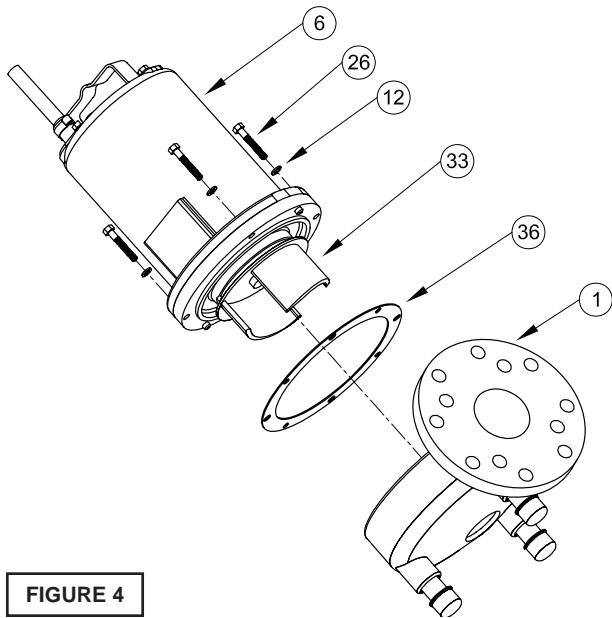

FIGURE 4
To clean out volute (1) or replace impeller (33), disconnect power, remove hex bolts (26), and lockwasher (12), vertically lift motor and seal plate assembly from volute (1) see Figure 4.